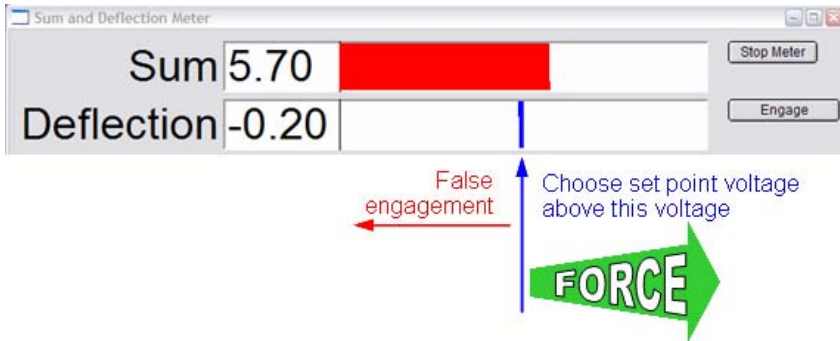

Figure 8.4: Choosing a Set Point voltage in Contact Mode: Set point must be more positive than the free air deflection voltage.
✓ Choose a Set Point voltage that is more positive than the free air deflection value in the S&D meter. In Figure 8.4, the free air deflection is -0.20 V: therefore a Set Point voltage of -0.19V or more positive is what is needed to engage the tip. Set Point voltages near (just positive of) the free air deflection means the tip will apply low force to the sample (or false engage), while Set Point voltages much more positive than the free air deflection voltage means the tip will apply greater force to the sample.
- ✓ Click '**Engage**' in the Sum and Deflection window (Figure 8.4). Notice the Z-piezo voltage maximizing all the way red (150 V), indicating the Z- piezo is fully extended in anticipation of engagement of the feedback servo.